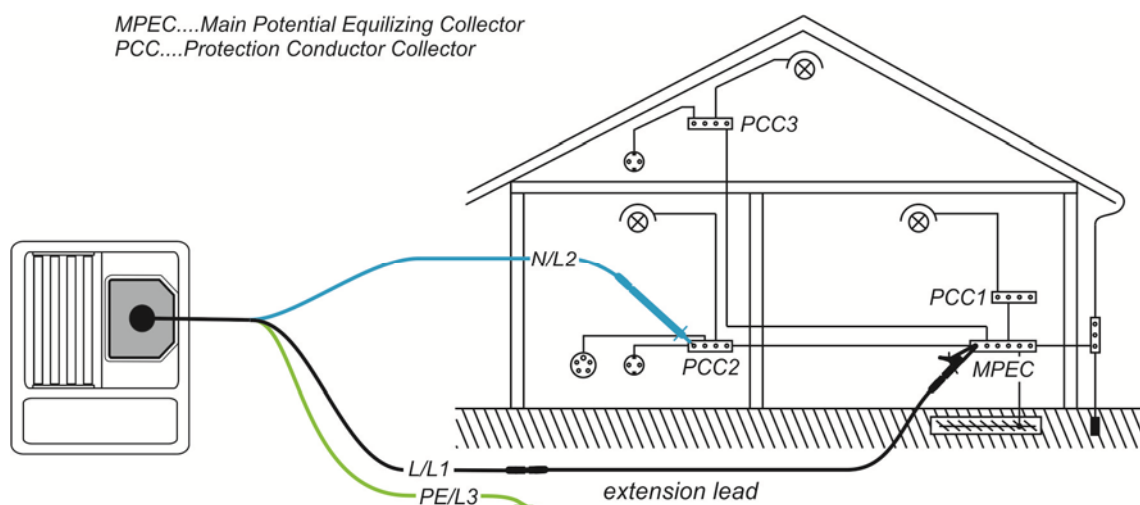

Figure 5.13: Connection of 3-wire test lead plus optional extension lead
- ❑ **Connect** the test leads to the appropriate PE wiring (see *Figure 5.13*).